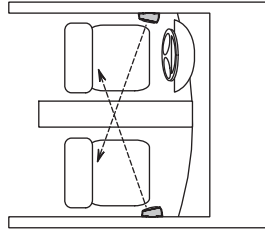

Figure 6
3. Treble is directional in nature. This means that high frequencies are reduced as you move off the tweeter's axis. The angle mounts will allow the tweeters to be pointed across the car to the listener on the opposite side. This will make each listener slightly off-axis to the tweeter that is closest to that listener, which helps to compensate for the fact that the listener is always closer to one tweeter than to the other (see Figure 6).